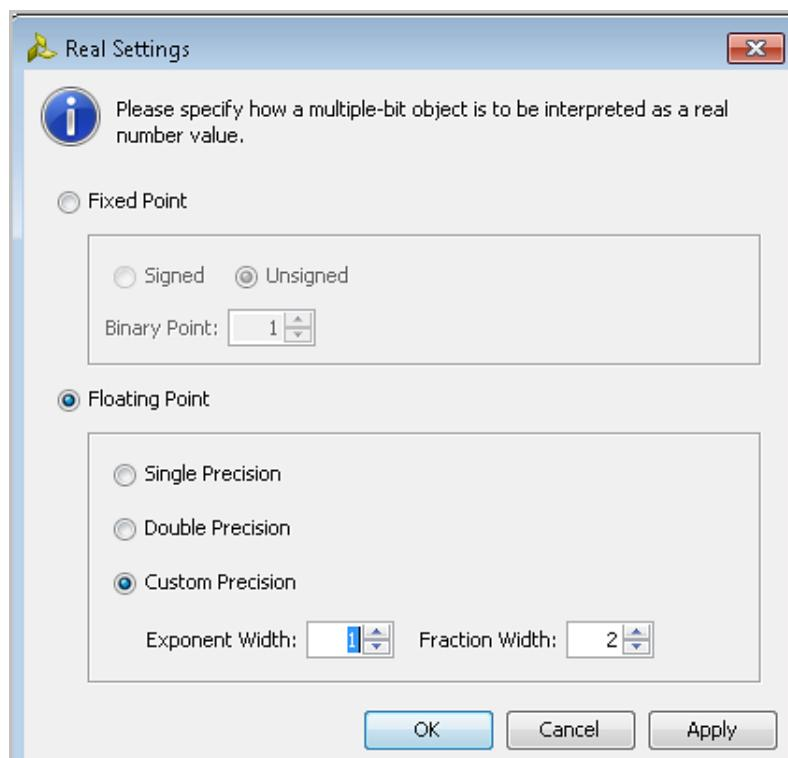

Figure 4-5: Real Settings Dialog Box
1. Open the **Real Settings** dialog box, shown in Figure 4-5.